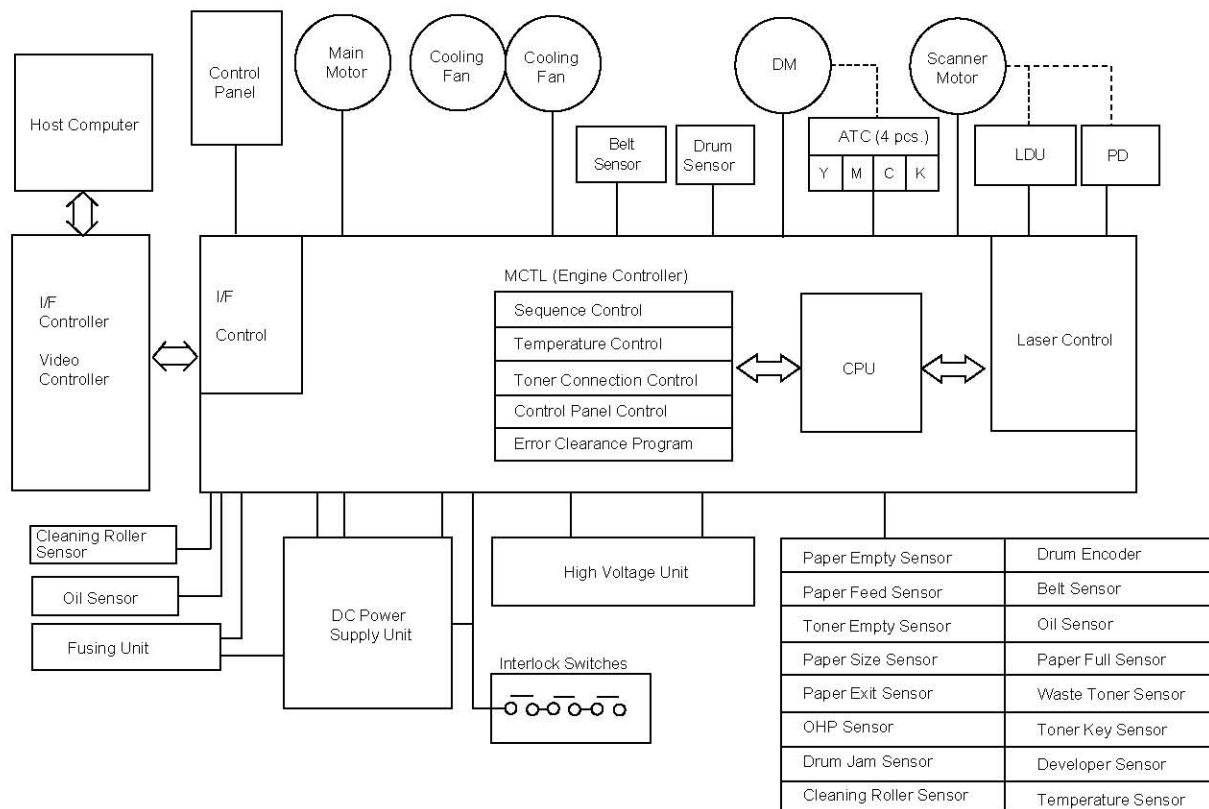

Fig. 4-33
(1) Control Block Diagram (Refer to Fig. 4-33.)